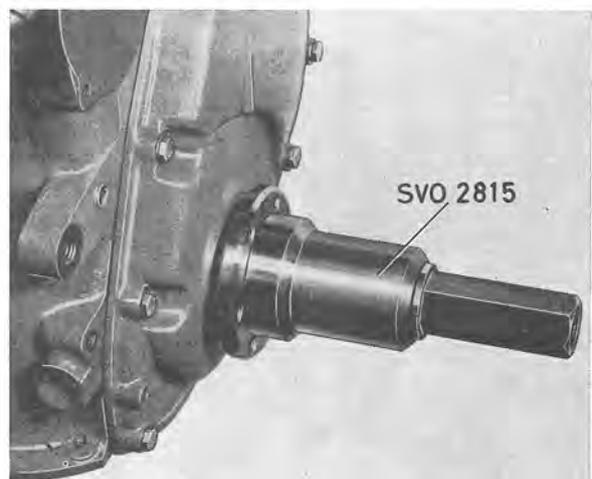

Fig. 2-33. Fitting polygon hub
5. Fit the polygon hub with tool SVO 2815, see Fig. 2-33. Before fitting, the sliding surfaces of the polygon hub should be greased. **Note the marking**, that is, the center punch marks on the crankshaft end and polygon hub. Fit the center bolt and tighten it to a torque of 7—8 kpm (50—57 lb.ft.).